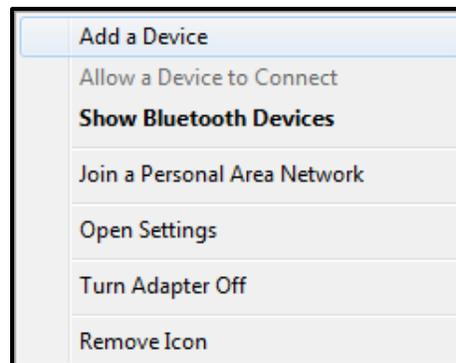

Figure 5.2.1-2: Add a Device
3. Click the name of the Smart Socket™ once it has been discovered (Figure 5.2.1-3).